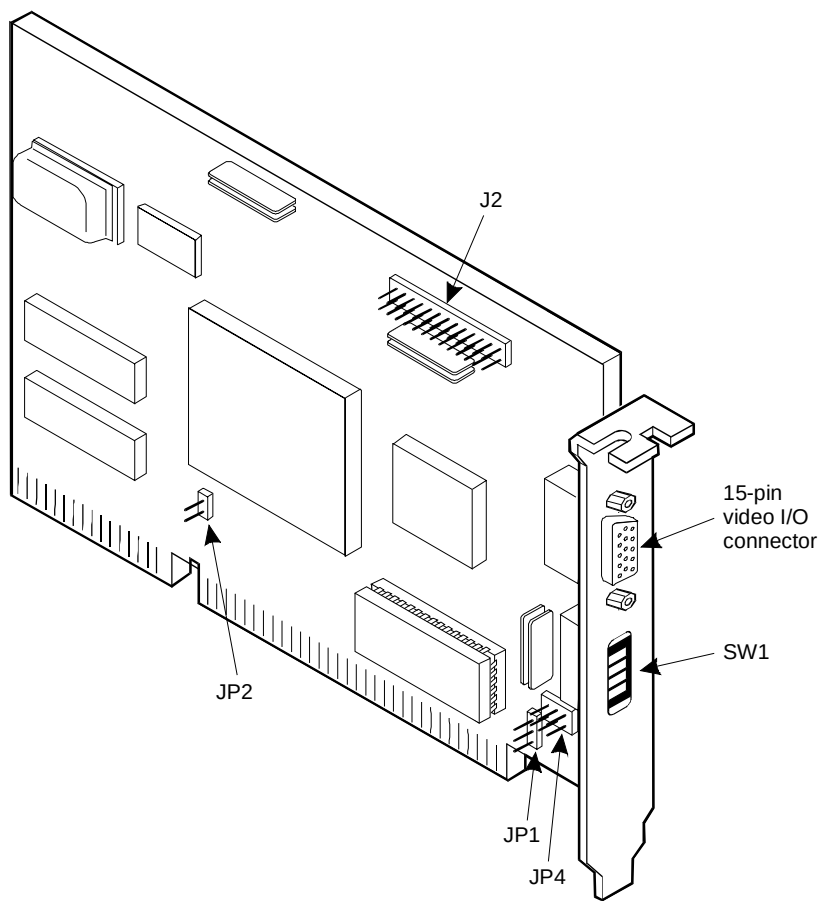

Figure 5-90. Video Controller Circuit Card — Model WDXLR833124
- WDXLR833124 (Figure 5-90)
Figure 5-90 shows the WDXLR83124 video controller circuit card.
Position the card in front of you with the gold fingers pointing down. See Figure 5-90 for proper orientation.
These switches control the monitor's mode and vertical and horizontal retrace/scan rate. See Figure 5-90 for the location of the switch on video controller card.